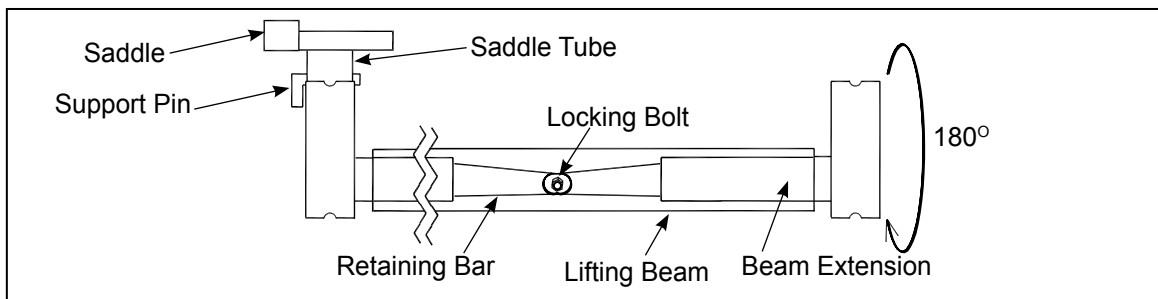

Figure 2.
5. For low pickup height, uncscrew the locking bolt and nut, then rotate the beam extensions 180 degrees. Refer to Figure 2.